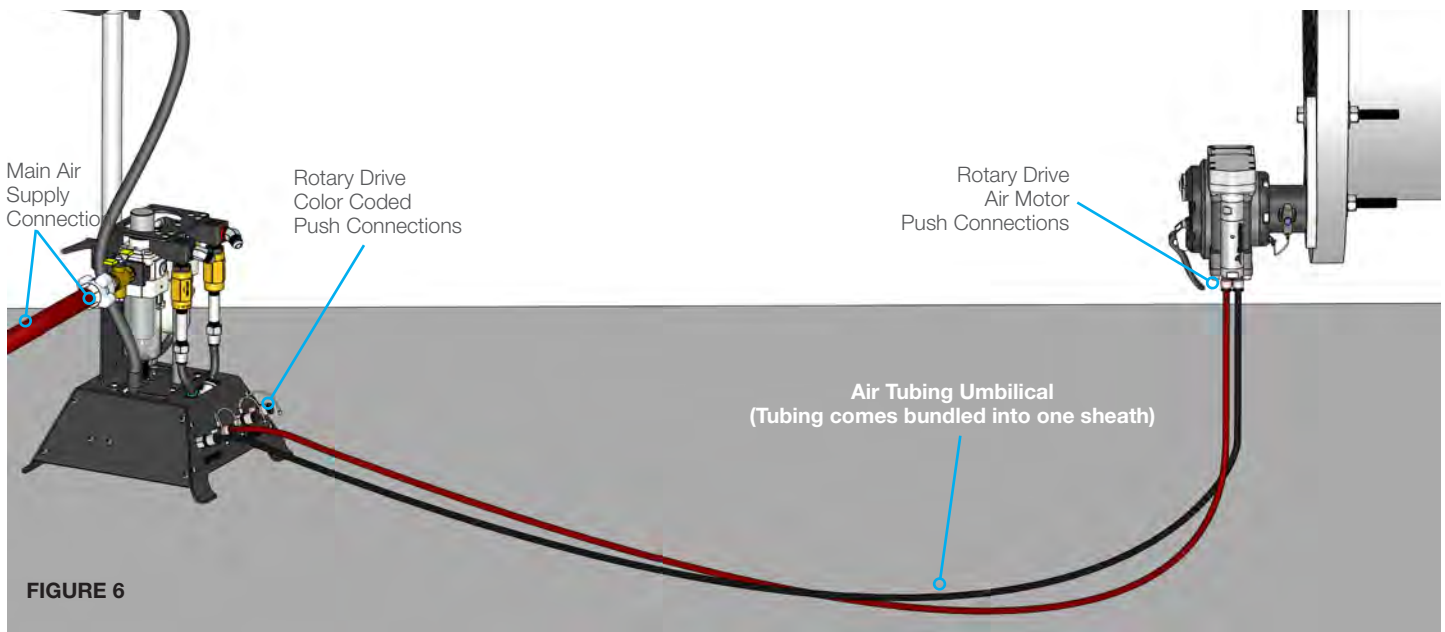

FIGURE 6
7. Connect the Main Air Supply Hose to the Chicago Air Fitting located on the side of the Control Box and turn the Air Valve to the "ON" position. **(Figure 6)**
8. Connect the color coded Air Tubing to their respective Push Connect Fittings, located above the "ROTARY" label on the base of the Control Box. **(Figure 6)**
10. Connect the opposite ends of the Air Tubing to the Push Connect Fittings on the Rotary Drive Air Motor. **(Figure 6)**